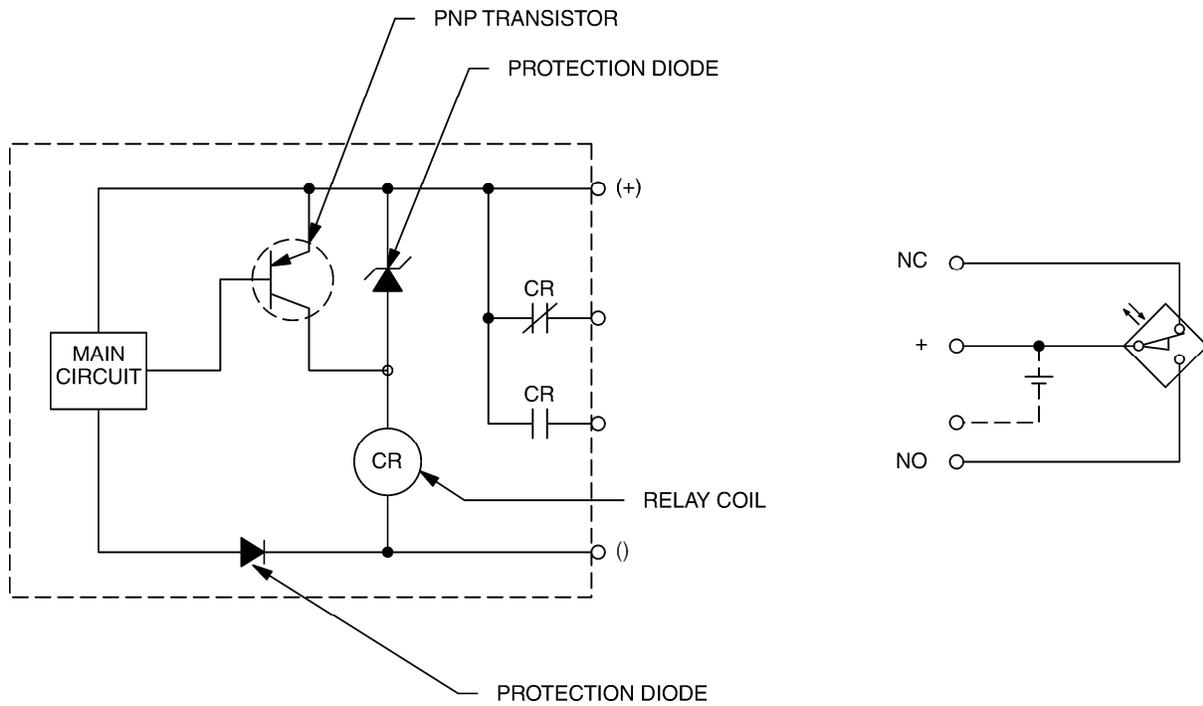

Figure 4. Relay output.
Because the maximum output current of output transistors is low (≈ 100 mA), a coil operating a set of normally-open (NO) and normally-closed (NC) contacts is often connected at the transistor output, as shown in Figure 4. This is the case for the sensors of your training system.